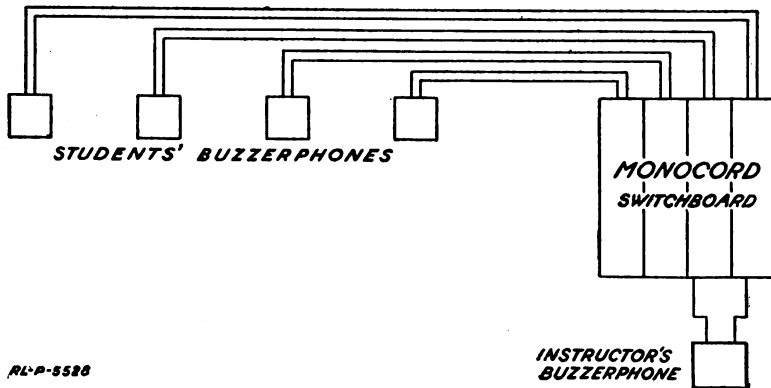

Fig. 18 – IG.—Diagram for buzzerphone instruction
2. For operation arrange the equipment as shown in Fig. 18 – IG with sufficient distance between students to provide for noninterference.